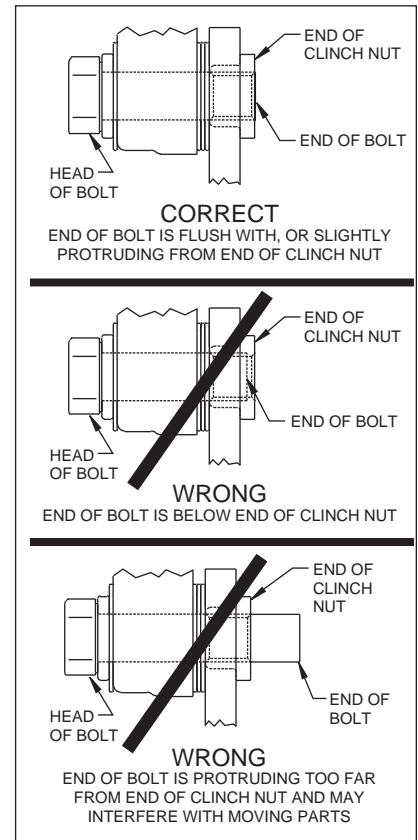

Figure 5.
- NOTE:** Please reference the caution statement at the beginning of the assembly instructions. Mount the caliper (16) onto the caliper mounting bracket (1) using washers (17), bolts (18) and caliper spacer (19) positioned between caliper (16) and the caliper mounting bracket (1). Finger tighten. View the rotor (9) through the top opening of the caliper (16). The rotor (9) should be aligned in the center of the caliper (16). If not, adjust the caliper (16) by using 0.032 inch thick shims (20) placed between the caliper mounting bracket (1) and the caliper spacer (19). Add as many shim washers (20) as necessary to achieve the correct alignment. Finger tighten and recheck alignment, adjust as necessary. **NOTE:** The end of the bolt must be flush with or slightly protruding from the head of the clinch nut. See Figure 5. Place spare shims (20) between washer and caliper mounting ear to achieve the proper mounting fastener configuration. Always use the same amount of shims on both the top and bottom caliper mounting bolts (18). Apply red *Loctite*® 271 to bolt threads (18) and torque to 40 ft-lb. Caliper mount bolts may be safety wired for additional security.